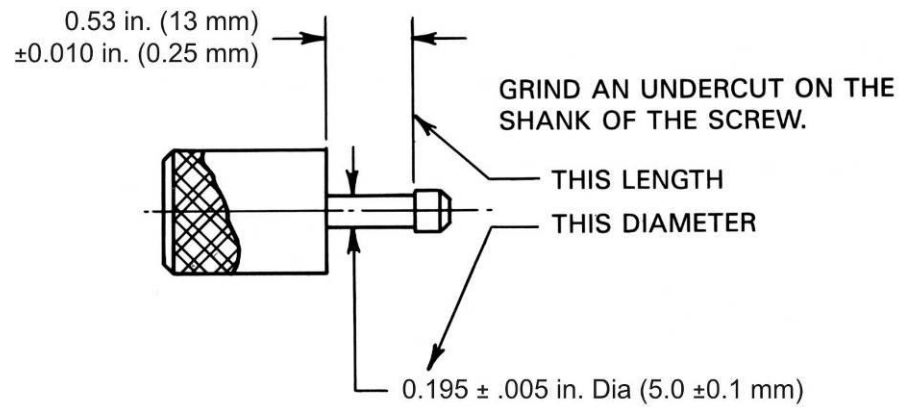

Figure A-4
4. Figure A-4 shows an undercut to the knurled screw ST-91-6. This undercut is necessary to allow the use of existing spacers with the revised counterweights.